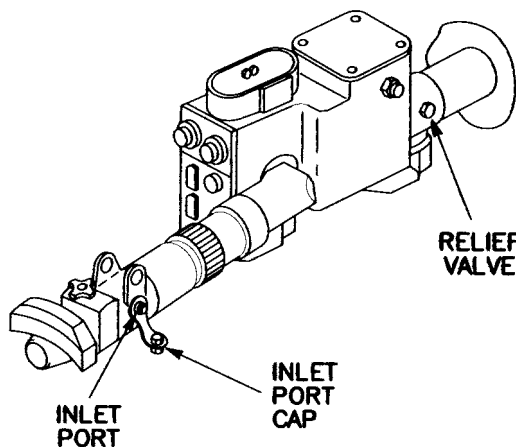

Figure 3-57 Gunner's Auxiliary Sight PN 12278900
(1) Loosen, but do not remove setscrews in the contrast knob, reticle knob, sensitivity knob, symbols knob, unit test pattern knob, and two boresight knobs from the front panel.
(2) Remove all knobs from the unit.
(3) Perform purging and charging procedure para 2-5.a.
(4) Purge instrument at 10 psig for 3 minutes.
(5) Ensure relief valve closes at 5 psig.
(6) Leak test all sealed joints, screws, control shafts, purging valve, and relief valve for minimum of 15 minutes.
(7) Install knobs on front panel.
g. Gunner's Auxiliary Sight, PN 12278900 (fig. 3-57).